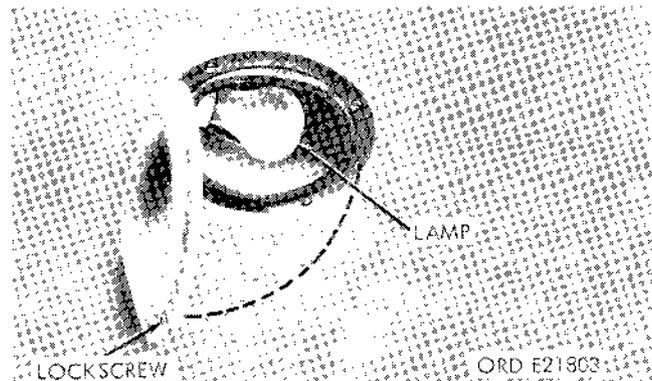

Figure 2-242. Removing emergency and blackout lamp.
a. Lenses and Lamps (Fig. 2-242).
- (2) *Replacement of lamps.*